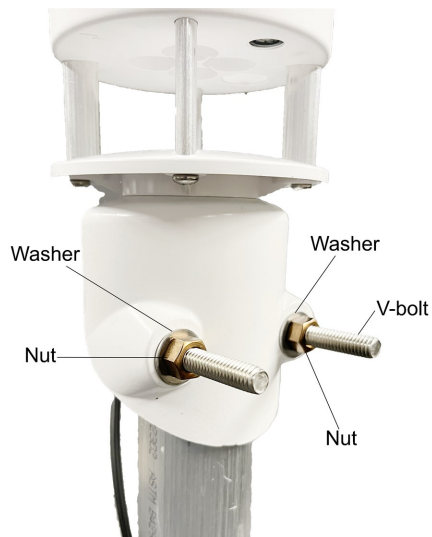

Figure 3-6. ClimaVue 40 mounted to a pole with V-bolt and nuts
- a. For the ClimaVue 40, use the V-bolt, washers, and nuts (Figure 3-6 [p. 15]) to tighten the V-bolt nuts until hand-tight.